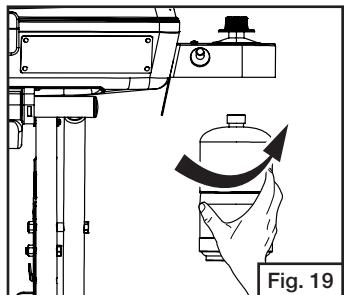

Fig. 19
- Remove plastic cap from top of propane cylinder and screw cylinder into regulator hand tight. (Fig. 19)